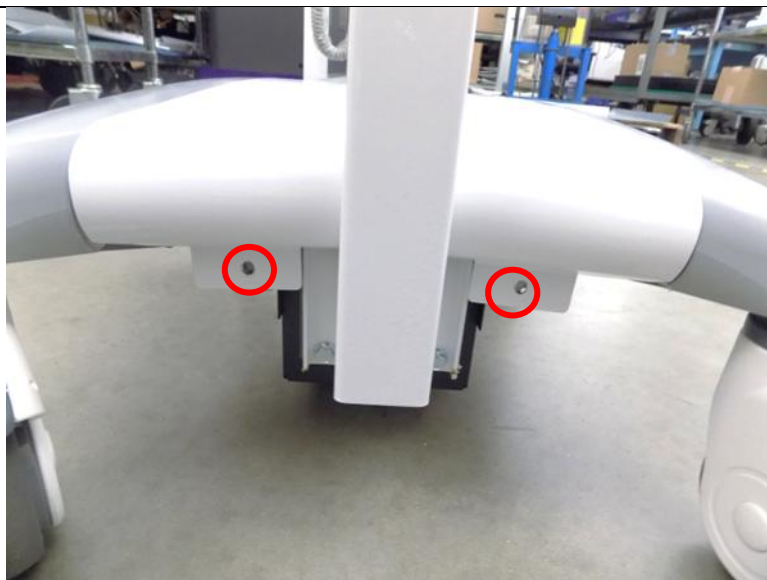

Figure 10: Removing the Base Shroud
10. Remove the 2 Phillips screws behind the cart base identified in Figure 10 and open the lower base shroud to reveal the battery system.